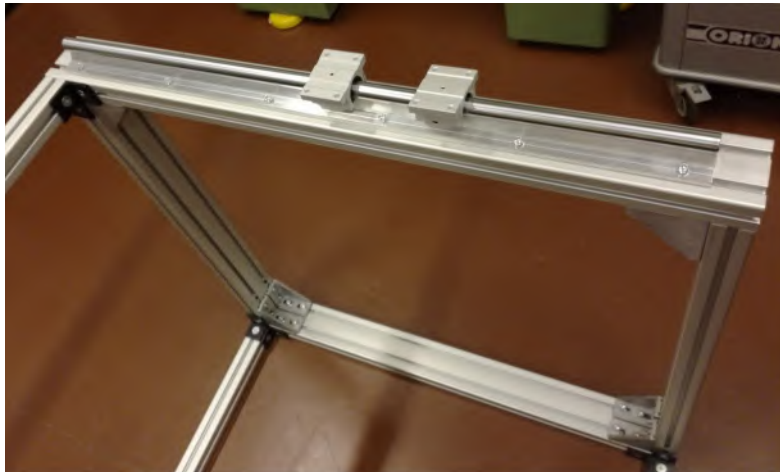

Figure 20: Assembled setup after step 7
7.3. Slide the linear bearings on the supporting rails (Figure 20)